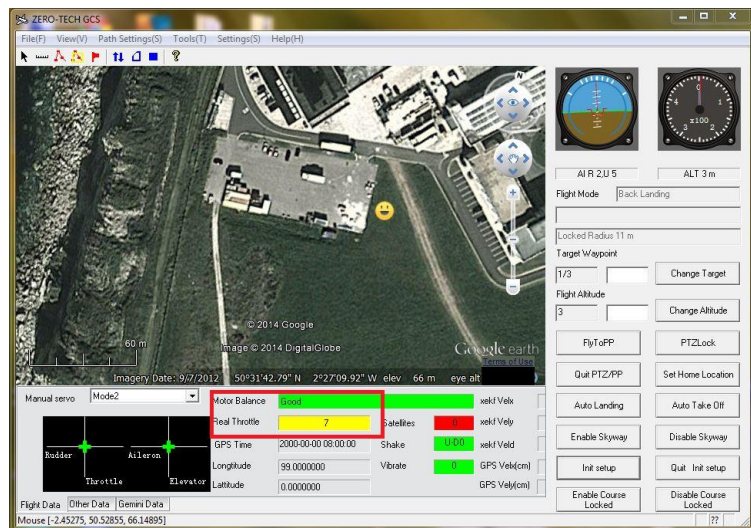

Figure 48
- ❖ **PC ground station:** Open Wi-Fi and the “Flight data” section will open at the bottom or select “View” → “Flight data” to check. The parameters are indicated in Figure 48.